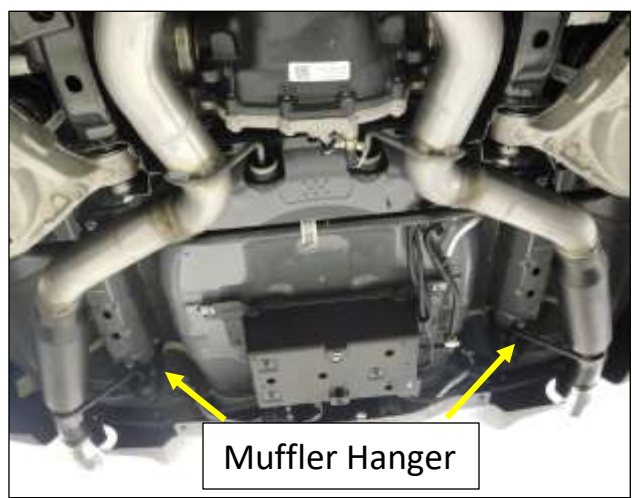

Figure 9
6. Install the OEM muffler hanger assembly onto the Flowmaster Muffler hanger rod, rotate into position, and clip the tab into the frame rail. Install the (x2) mounting bolts (**Fig. 9**).